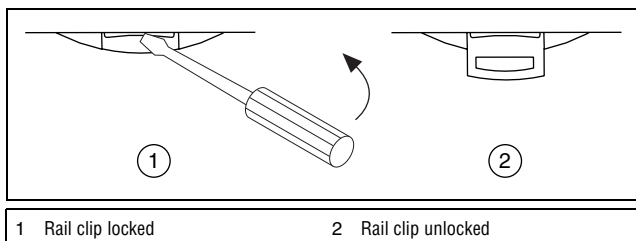

Figure 1. Unlocking the Rail Clip
2. Use a flathead screwdriver to open the DIN rail clip to the unlocked position, as shown in Figure 1.